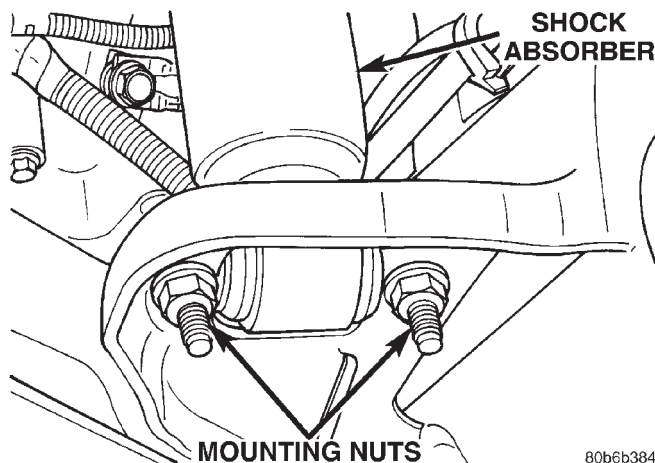

Fig. 3 Lower Shock Mounting
(2) Raise and support the front axle.
(3) Remove the lower mounting nuts from the axle bracket (Fig. 3). Remove the shock absorber.